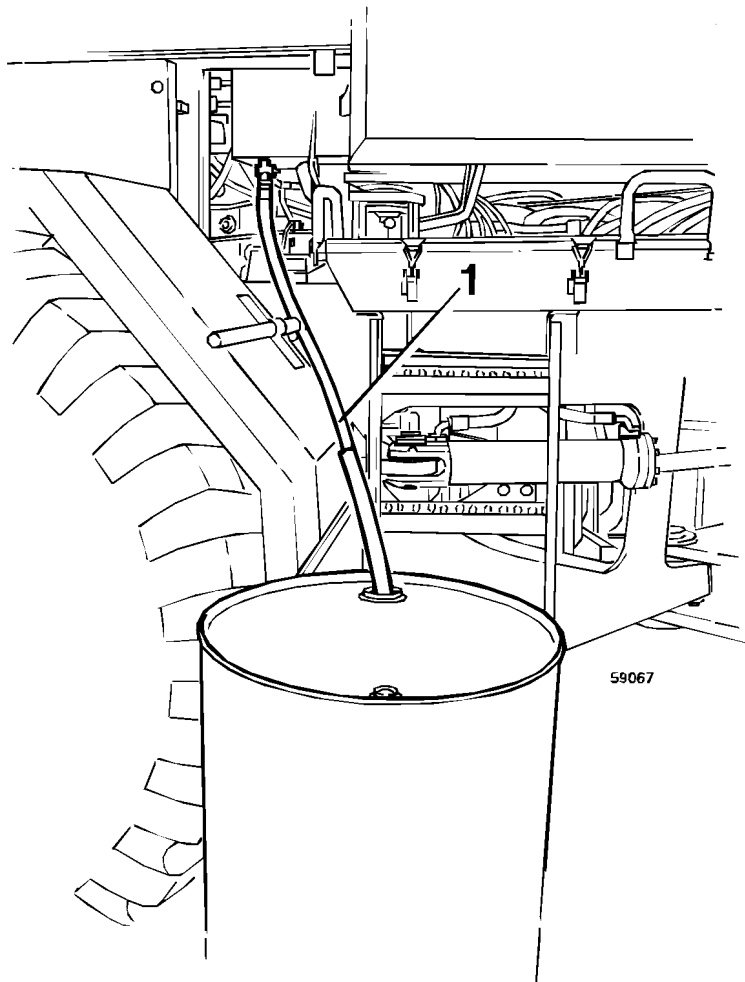

Figure 1
4. Drain the hydraulic oil, see **Figure 1**.